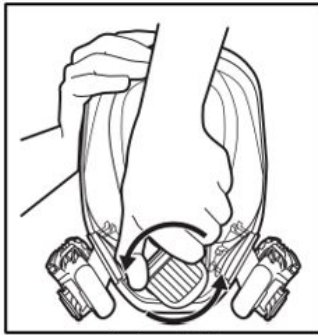

Fig.14
2. Remove exhalation valve assembly by turning counter clockwise 1/4 turn (Fig. 14).
3. Remove exhalation valve assembly by turning counter clockwise 1/4 turn (Fig. 14).
3. Remove exhalation valve assembly by turning counter-clockwise 1/4 turn (Fig. 14).